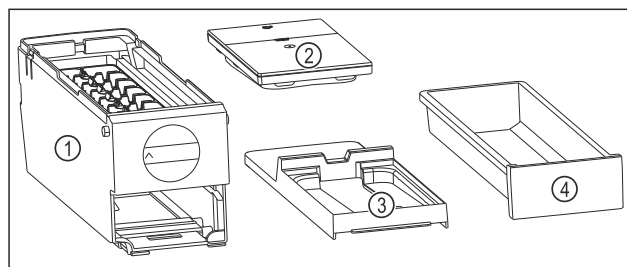

Fig. 126 Components of the EasyTwist-Ice
- ▶ EasyTwist-Ice is dismantled into four parts. (see Fig. 126)
- ▶ Only dismantle the EasyTwist-Ice into the components shown. (see Fig. 126)
- ▶ Clean the EasyTwist-Ice body Fig. 126 (1) as a whole.